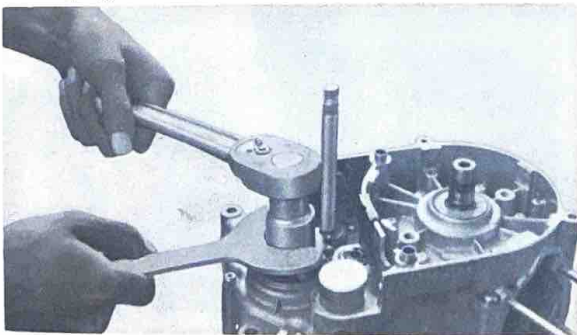

Fig. 4-13-2
- Keep the drive sprocket from turning with the flywheel magneto holding tool, then loosen the sprocket nut. (Fig. 4-13-2)